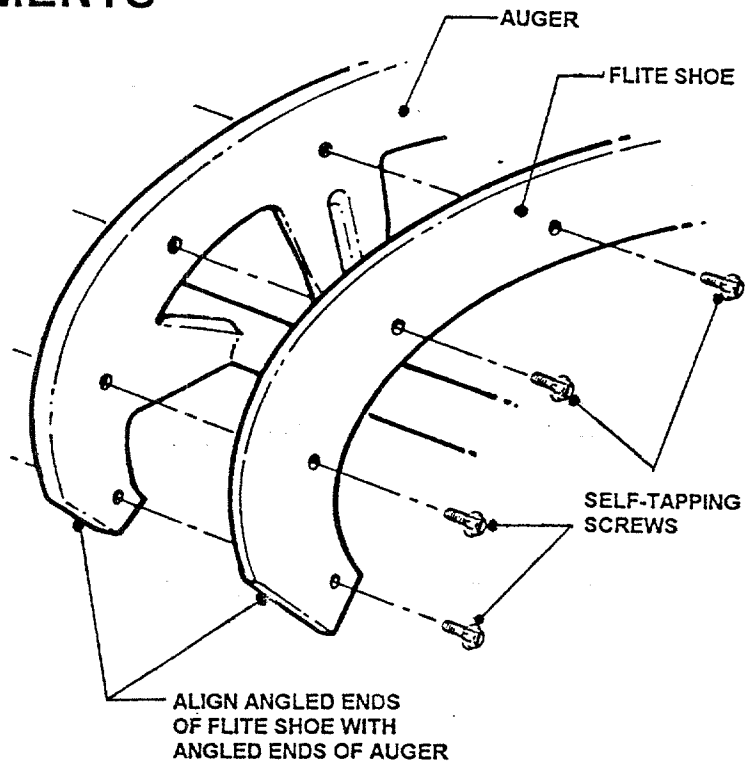

FIGURE 4.7
3. Install new flite shoes to auger using self-tapping screws removed previously. Tighten screws securely. **DO NOT** overtighten. See Figure 4.7.